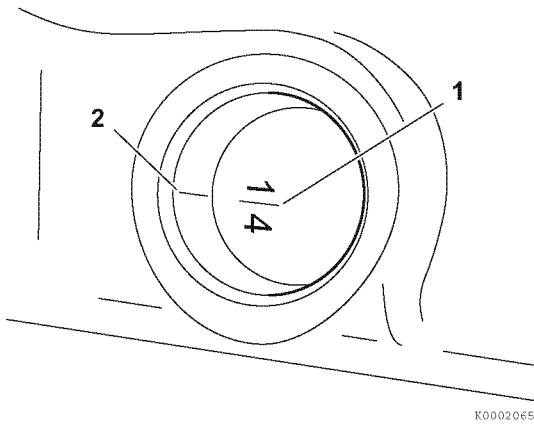

Figure 7-37
- Highlight the timing reference mark (2, **Figure 7-37**) on the flywheel housing or engine back plate (2, **Figure 7-38**). Highlight the TDC (Top Dead Center) mark (1, **Figure 7-37**) on the flywheel.